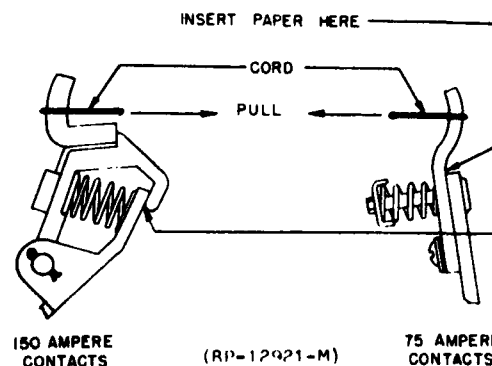

FIG. 9 MEASUREMENT OF INITIAL CONTACT PRESSURE (PAR. 11.1)
11.13 To check this requirement attach a short loop of cord around the movable contact and insert a piece of paper in the contact assembly between contact finger and support. (See Figure 9). Hook the R-2481 gauge in the loop and pull in the direction away from the stationary contact. Pull gently on the paper and observe the reading of the gauge at the instant the paper can be moved.